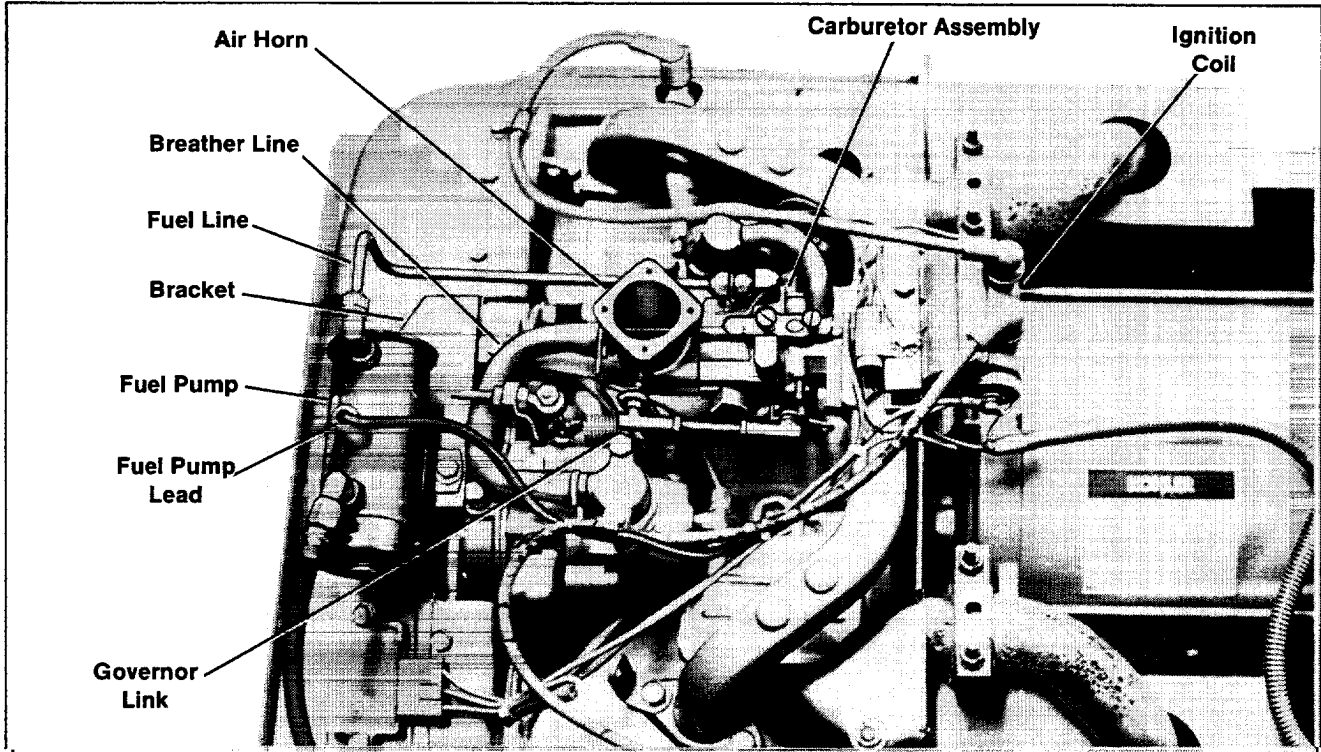

Figure 1. Removing Gasoline Parts
6. Remove carburetor (including air horn), fuel line, gasket and carburetor mounting studs. Remove the air horn from carburetor; save the mounting screws (3) for use in Step B-2. See Figure 1.